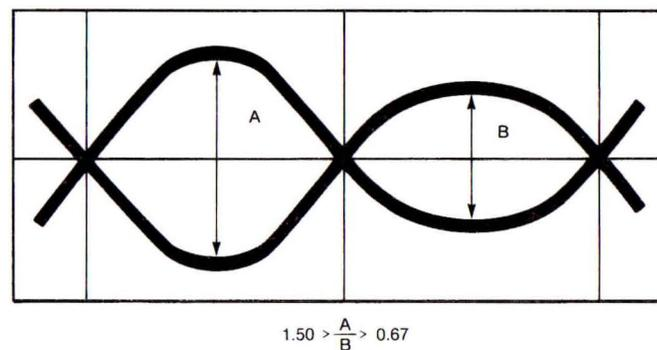

FIGURE 4-11. RADIAL HEAD CHECK
5. Observe waveform. The lobes ratio should be as specified in Figure 4-11. This specification applies to both heads on 552 drives.
8. Observe waveform; it should be distinct lobe patterns; refer to Figure 4-11.
9. Adjust (rotate) stepper housing with front of housing indexed against base until both adjacent lobes meet the lobe ratio specified in Figure 4-11.